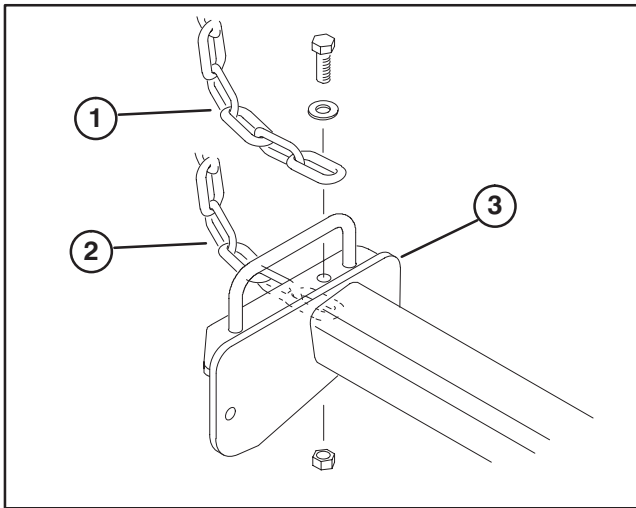

Figure 11
3. Secure a tipper chain to top of each Reelmaster 2300 carrier frame and to the bottom of each Reelmaster 2600 carrier frame with a capscrew, washer and locknut (Fig. 11).